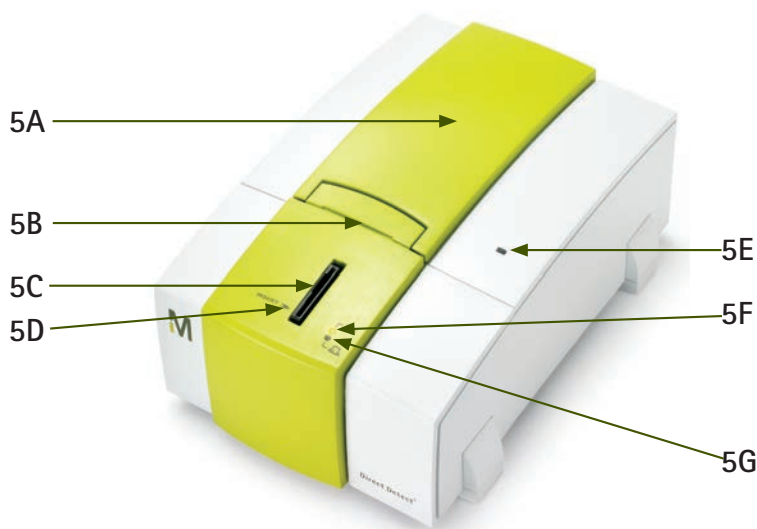

Figure 5. Direct Detect® spectrometer
1. Place instrument on bench and put Netbook stand on top of instrument. The front tab of the stand fits into the slot on top of the instrument (5B in Figure 5).
The arrow on the bottom right side of the card should be aligned with the arrow on the Direct Detect® card holder module (5D in Figure 5). Gently release the card and the instrument will accept it for analysis.